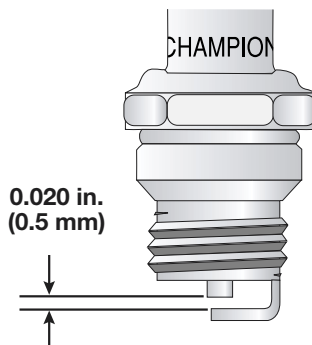

Fig. 29
3. Replace cracked, fouled or dirty spark plug. Set the air gap at **0.020 in. (0.5 mm)** using a feeler gauge (Fig. 29).